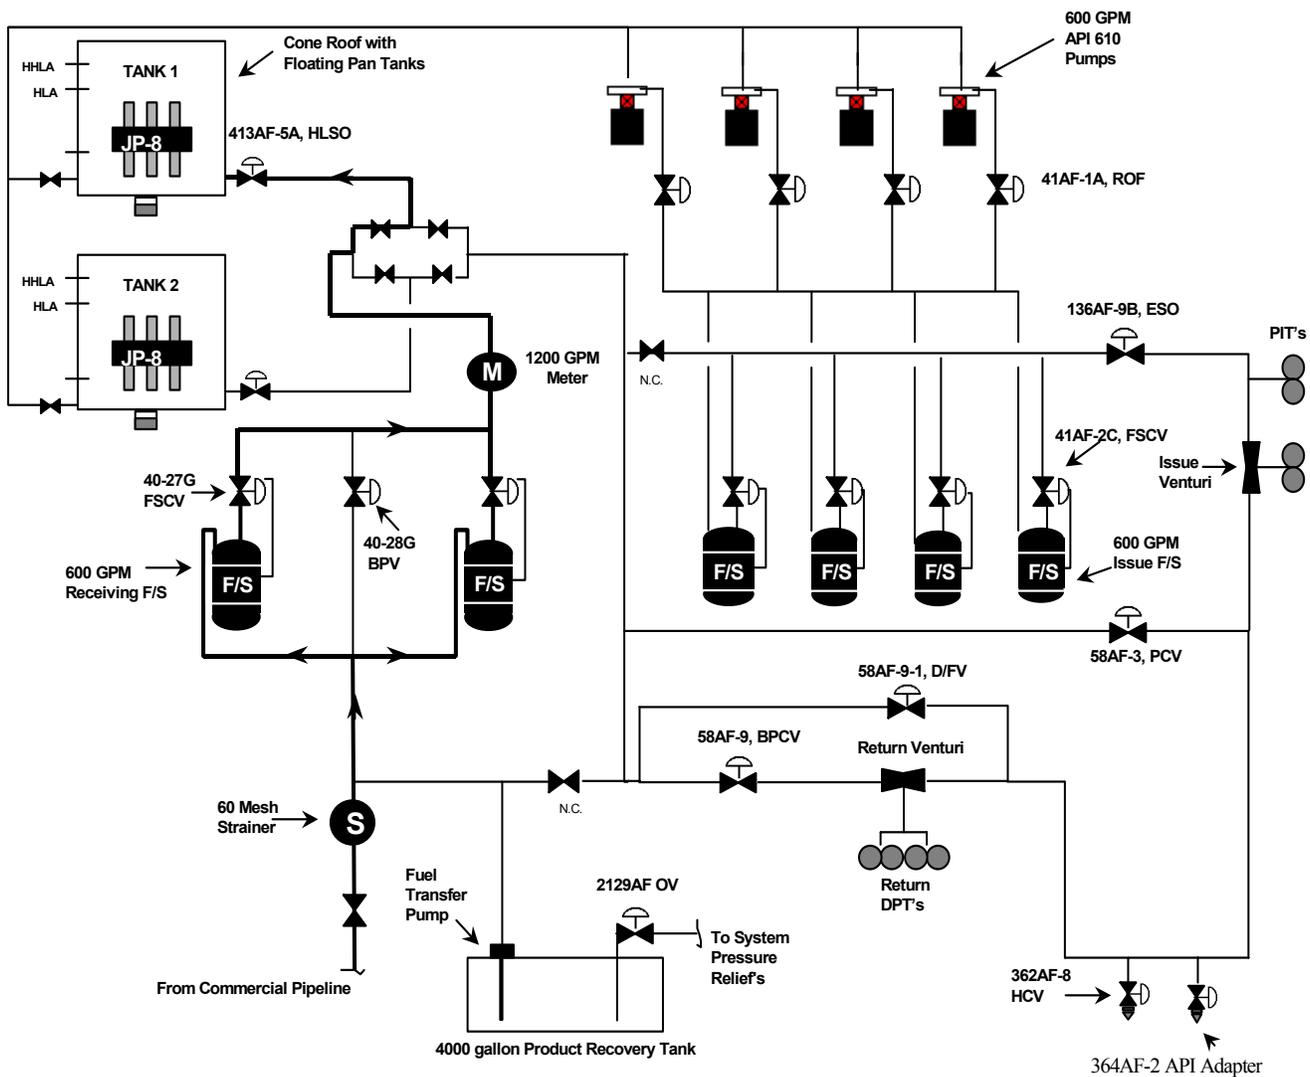

Figure 7. Type III System
7.2. In addition to the drawings in a set of prints, you will work with drawings called *diagrams*. To be a good troubleshooter, you must be able to read and interpret diagrams. Remember that the principle characteristics of these diagrams apply to all utilities systems. The schematic diagram is a drawing that shows the fuel system plan of operation for a piece of equipment, or part. The position of parts is not shown in this type of diagram. The schematic diagram, like the connection diagram, makes use of symbols instead of pictures. The schematic shown in Figure 7 is a plan of the fuel system layout. It is laid out so that the components are in line to make it easy to trace the operation. The schematic is sometimes called an elementary or one-line diagram, and it is very useful in troubleshooting or tracing the plan of operation.
5.1. Using Figure 7 in this AFQTP, describe to trainer the operation of the fuel system.